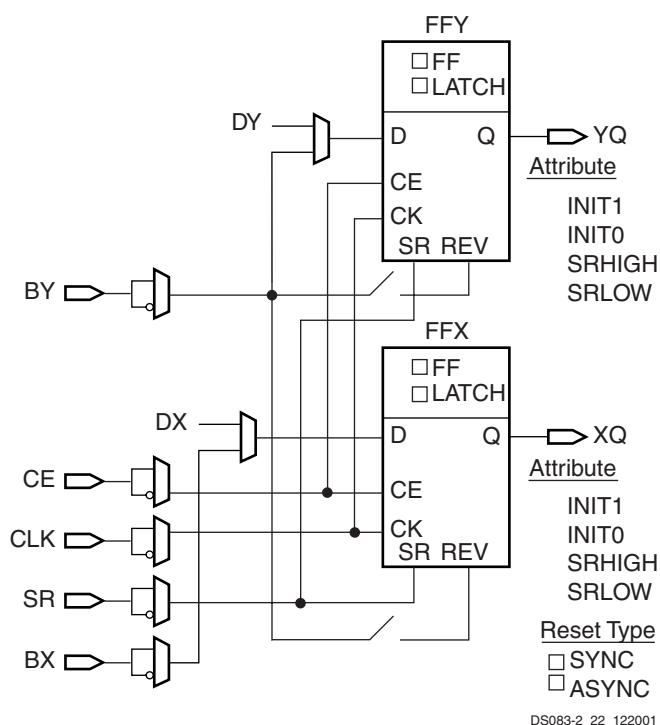

Figure 23: Register / Latch Configuration in a Slice
In addition to clock (CK) and clock enable (CE) signals, each slice has set and reset signals (SR and BY slice inputs). SR forces the storage element into the state specified by the attribute SRHIGH or SRLOW. SRHIGH forces a logic 1 when SR is asserted. SRLOW forces a logic 0. When SR is used, an optional second input (BY) forces the storage element into the opposite state via the REV pin. The reset condition is predominant over the set condition. (See Figure 23.)